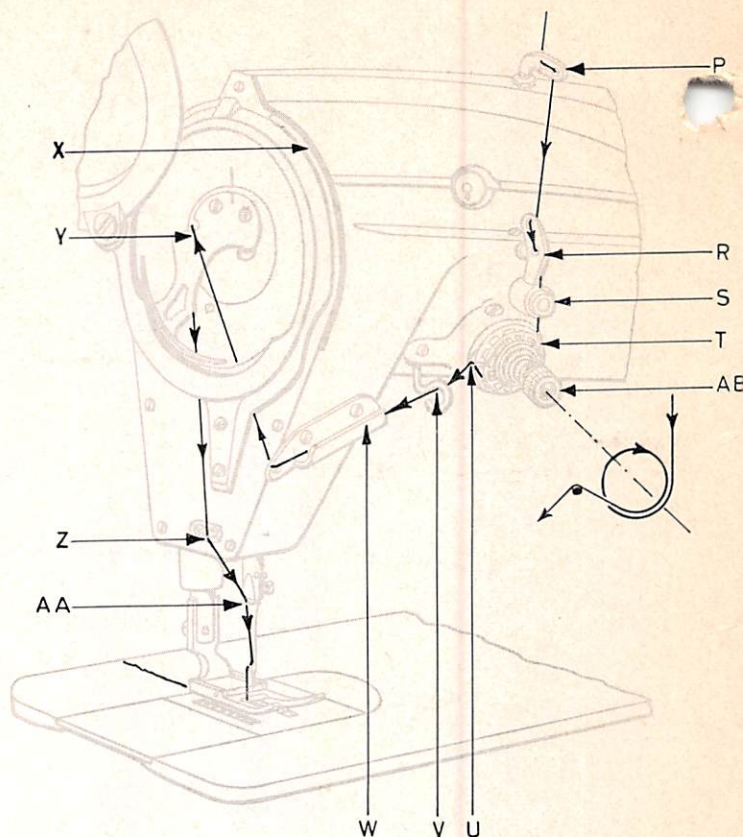

Figure 10
First, turn the machine pulley toward the operator until the needle is at its highest position. From the spool holder pass the needle thread from right to left through the rear hole of the thread guide "P", Fig. 10 on the arm cover and then from left to right through the front hole. Now draw the thread from right to left through the upper hole of the thread guide "R", Fig. 10 on the pretension and from left to right through the lower hole. Insert the thread from right into the pretension "S", Fig. 10, lead 1-1/2 times clockwise around the tension wheel "T", Fig. 10, over the thread take-up spring "U", Fig. 10, under the thread pull-off "V", Fig. 10 and to the thread guide hole of the long thread guide "W", Fig. 10. Then pass the thread through the opening in front of the face plate "X", Fig. 10, over the thread take-up lever "Y", Fig. 10, down through the thread guide eye "Z", Fig. 10, through the needle bar thread guide "AA", Fig. 10 and from front to rear through the eye of the needle.
**The tension on the needle thread** should be regulated only when the presser foot is down and the thread tension not released. The tension is regulated by means of the tension thumb nut "AB", Fig. 10.